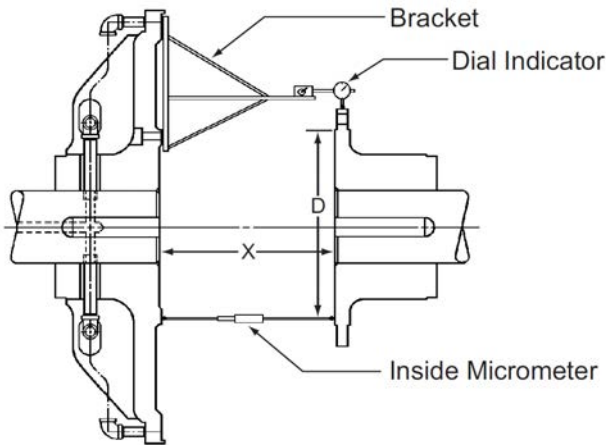

Figure 9
Not to exceed 0.0005 inch per inch (0.0005 mm/mm) diameter at which readings are taken ("D" on Figure 9).
"X" DIMENSIONS (FIG 9)**
- 2.4.1 Foundations must be set so distance 'X', shown on **Figure 9**, is established. If the clutch is mounted on a shaft having plain bearings, make sure the shaft is centered within the bearings when establishing the "X" dimension. Refer to Table 2 for appropriate "X" dimensions.
- 2.4.2 Fabricate a rigid bracket for supporting a dial indicator and attach to the spider. See **Figure 9**.